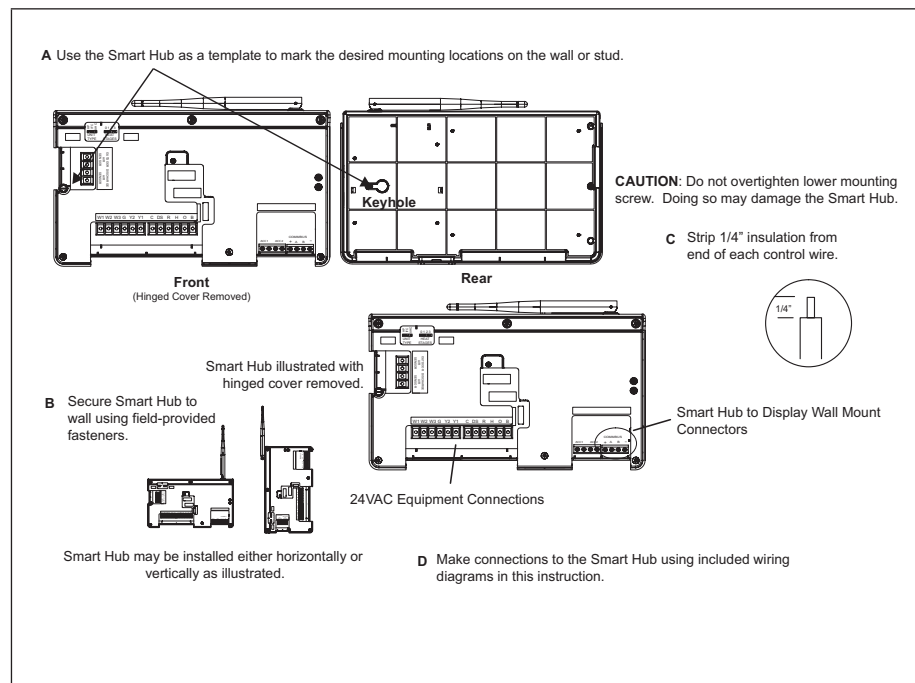

Figure 17. Smart Hub Installation
2. Use the following procedure outlined in “Figure 17. Smart Hub Installation” on page 12.